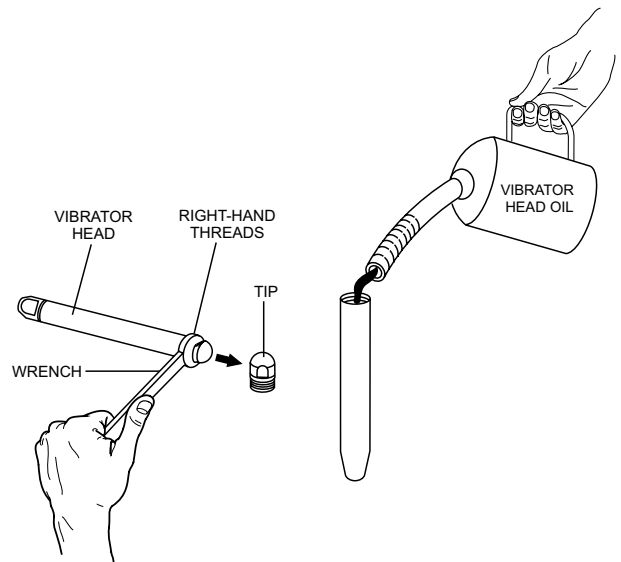

Figure 12. Adding Oil (Vibrator Head)
- Using a wrench, remove vibrator tip (Figure 12) from vibrator head body. Have a cloth handy to catch any spilled oil.